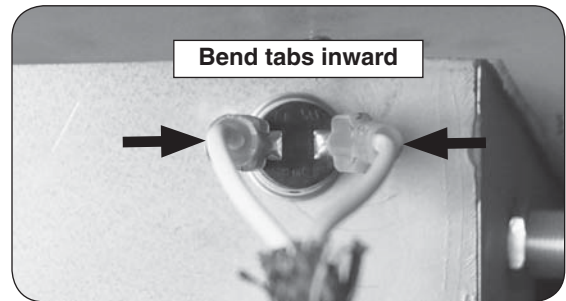

Fig. 2-2 Bend tabs inward (if needed)
4. Using your hand, bend the two wire connector tabs inward to allow access to the two screws (if needed). See Fig. 2-2.